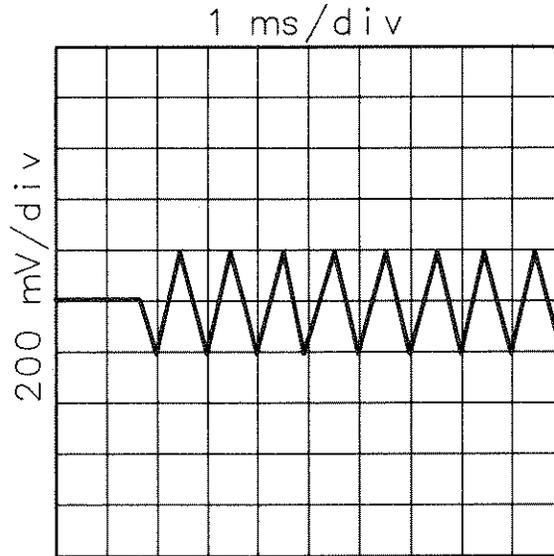

Figure 4-14. Frequency Switching Time Measurement Waveform
13. Press the digitizer (STORE M1) key on the oscilloscope and step the Signal Generator to the stop frequency with the appropriate FREQ INCREMENT key. The oscilloscope should digitize the switching waveform as the frequency changes. The waveform should now look like that shown in Figure 4-14.
14. Measure the frequency switching time by observing the digitized signal on the oscilloscope display. The external trigger is the reference for determining switching speed. The switching time is measured from the display's left graticule to the last phase reversal (as the Signal Generator frequency passes the local oscillator frequency) before the IF signal settles into a steady frequency. Refer to Figure 4-14. Record the frequency switching time.